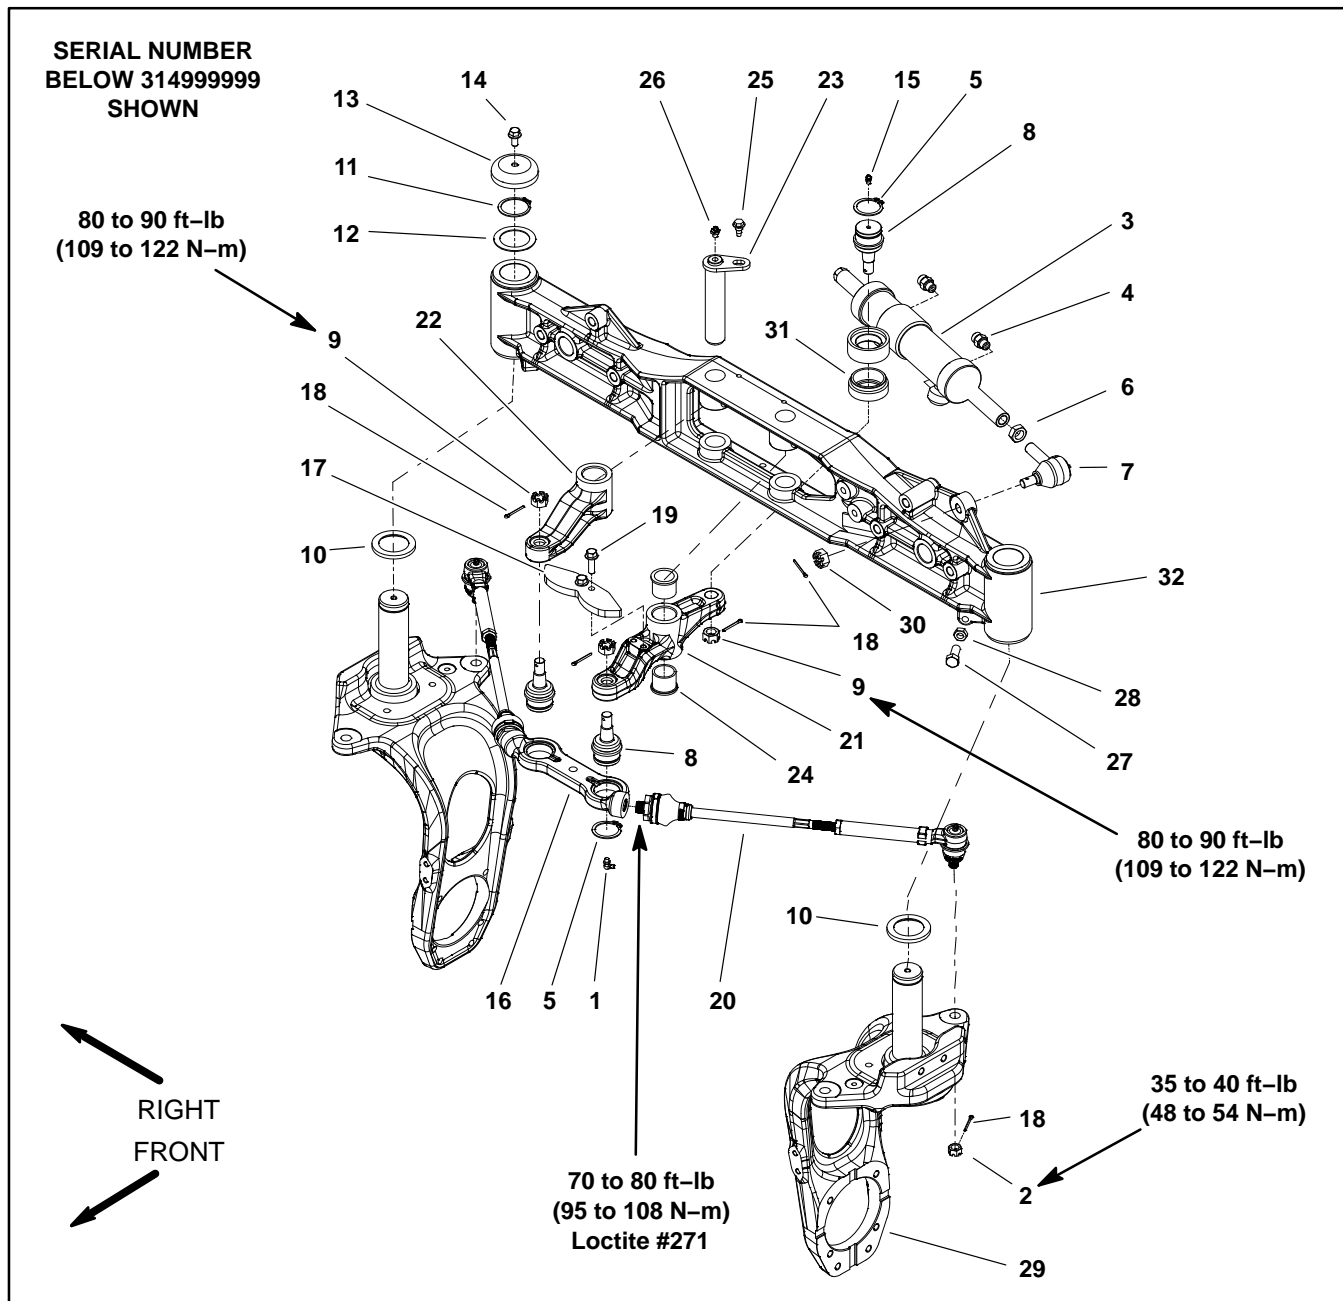
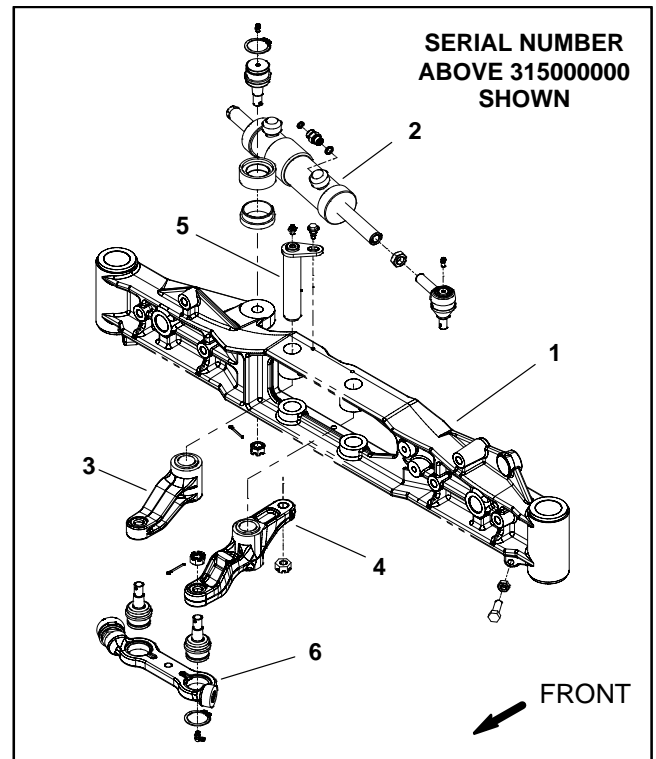
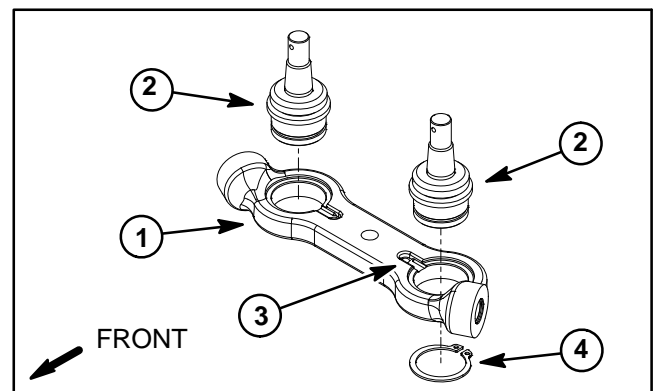

Figure 34
Figure 35
Figure 37
NOTE: The rear axle steering cylinder on machines with serial numbers above 315000000 is installed differently than the cylinder on machines with lower serial numbers. Figure 35 shows the cylinder orientation for machines with the higher serial number. Use the following procedure and torque specifications identified in Figure 34 when servicing the rear axle on all Groundsmaster 360 machines.
Disassembly (Fig. 34)
8. Remove additional rear steering components as necessary using Figure 34 as a guide.
9. If bushings in the rear axle (item 32), rear axle LH arm (item 21) or rear axle RH arm (item 22) are worn or damaged, replace bushings (see Steering Assembly Bushing Service in this section).
Assembly (Fig. 34)
1. Install all removed rear steering components using Figure 34 as a guide. Note torque specifications identified in Figure 34 during assembly. If ball joints were removed from center link (item 16), press new ball joints into center link from the side of the link that has a notch at ball joint bore (Fig. 37).
2. To install tie rod (item 20) to vehicle: